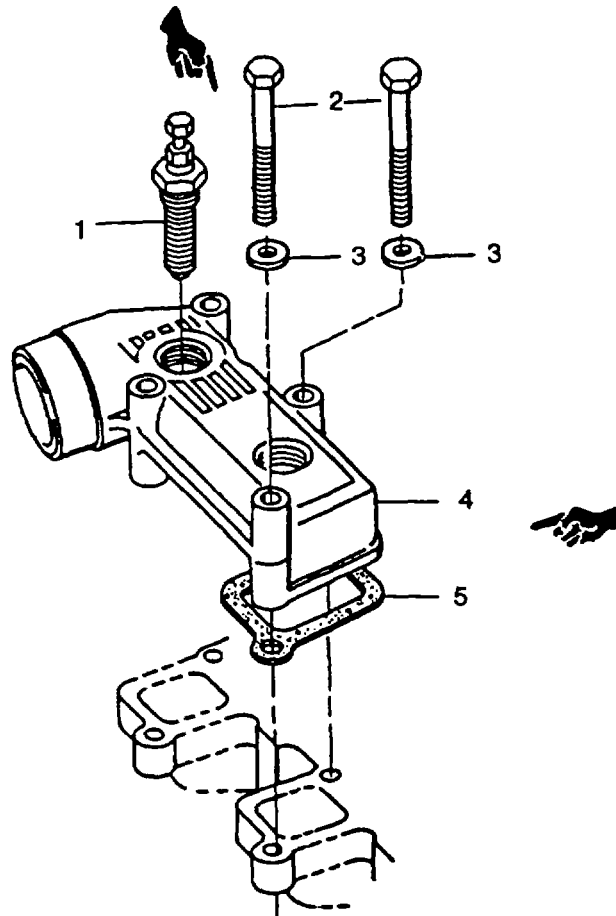

FIGURE 3-2. Intake Manifold
- b. Tag and disconnect electrical leads from heater plugs (1, FIGURE 3-2).
- c. If damaged or defective, remove heater plugs (1) from manifold.
- d. Remove four bolts (2), four washers (3), intake manifold (4), and two gaskets (5). Discard gaskets (5).
- b. Install new or tested heater plugs (1, FIGURE 3-2) in manifold (4).
- c. Clean intake manifold (4) and cylinder head mating surfaces of any traces of old gasket.
- d. Position two new gaskets (5) and intake manifold (4) on cylinder head.
- e. Install four washers (3) and four bolts (2). Tighten bolts to 78 in-lbs (8.8 Nm).